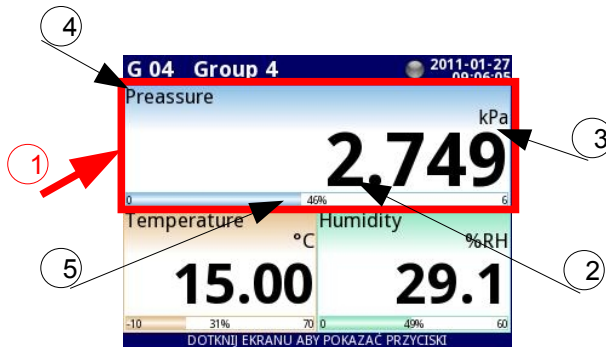

Fig. 6.5. View of the **Data panel**
In all data panels (a sample of a data panel is shown inside the frame marked **(1)** in Fig. 6.5) the following information is available:
- value of the logical channel (denoted by **(2)** in Fig. 6.5),